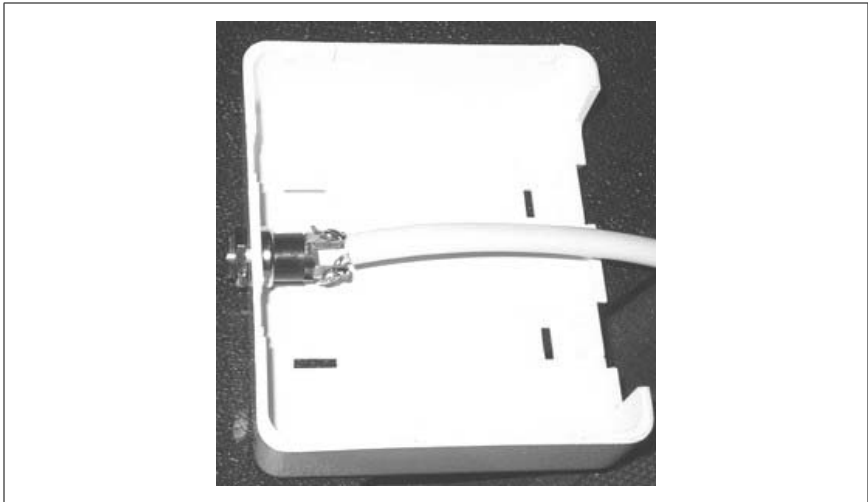

Figure 4-7. The DC plug mounted in the housing
2. Drill a hole in your two-port mount housing. Mount the male DC plug in the housing, as shown in Figure 4-7.